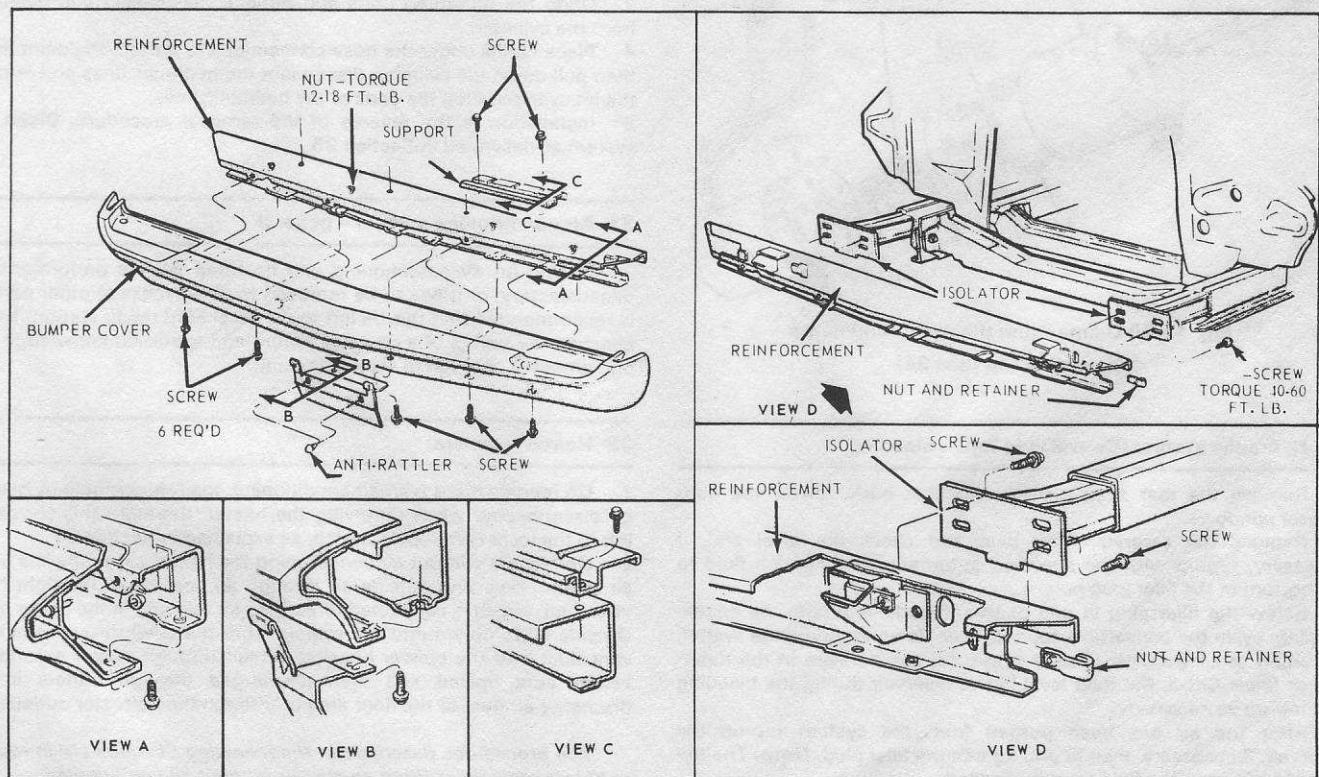

Fig. 12.26 Front bumper assembly – later models (Sec 31)
- 8 Installing is the reverse of the removal procedure. Tighten the bolts to the torque value given in Fig. 12.26.